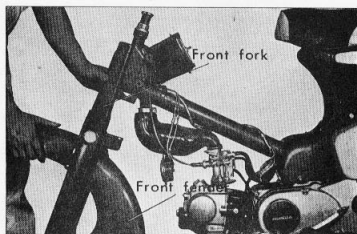

Figure 4-6. Removing front fork
- (1) Remove the steering handle in accordance with section 4.1a.
- (2) Remove the headlight case.
- (3) Remove the front wheel in accordance with section 4.4a.
- (4) Remove the fork top bridge by unscrewing the steering head stem nut and the two 8mm bolts.
- (5) Unscrew the steering head top thread by using a hook spanner and slide the front fork out the bottom. (Fig. 4-6)